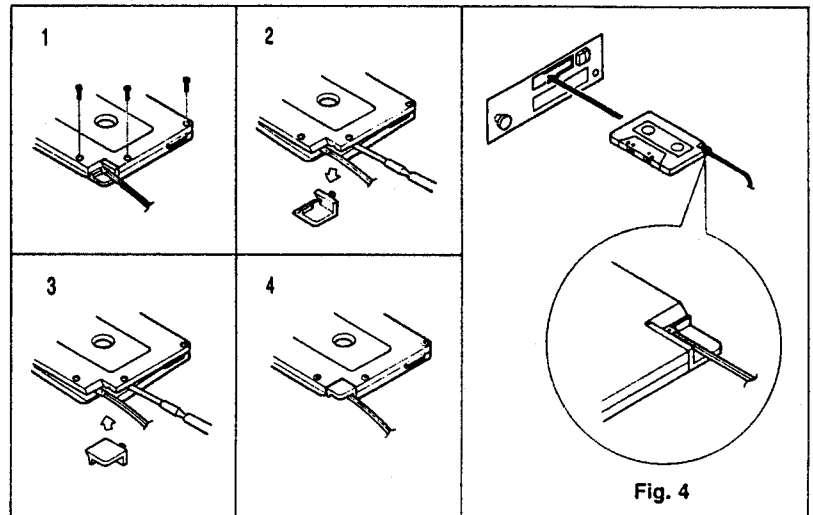

Fig. 4
- The loading direction may differ with different types of cassette receiver. In such a case, replace with the provided parts so that the cord attached to the cassette adapter is towards you as shown in Fig. 4.